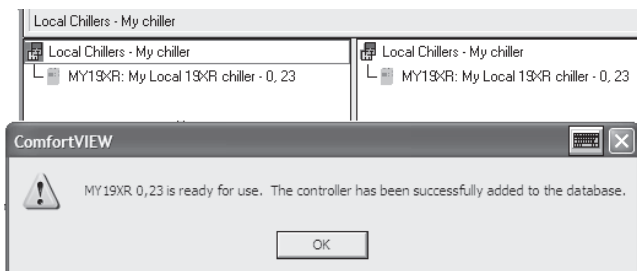

Fig. 13 — Local Chiller Successfully Added
8. After uploading your chiller into the Local Chiller CCN database (Fig. 13), press “OK” to the prompt. The tree can be expanded for your chiller to select point and configuration screens to verify communication. If preferred, the configuration of an existing chiller database can be used by performing the copy function rather than the upload function while adding your chiller to the Local Chiller CCN.